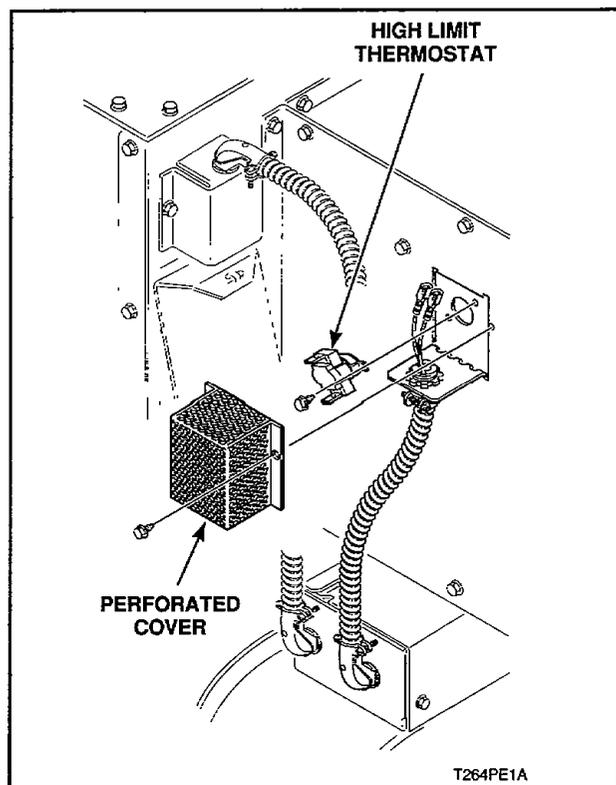

Figure 19
25. STOVE HIGH LIMIT THERMOSTAT (Figure 19)